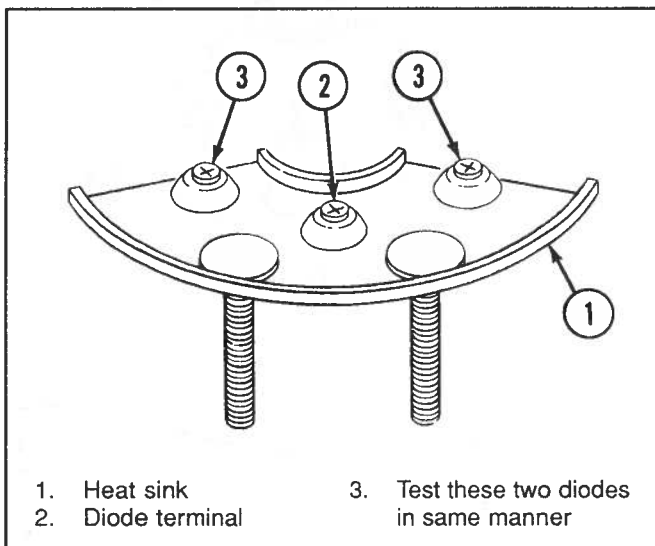

Figure 6-104. Testing Negative Diodes
1. Connect one lead of an ohmmeter set on Rx1 scale to negative (–) rectifier-diode heat sink and the other lead to one of the rectifier-diode terminals (Figure 6-104). Note the reading.